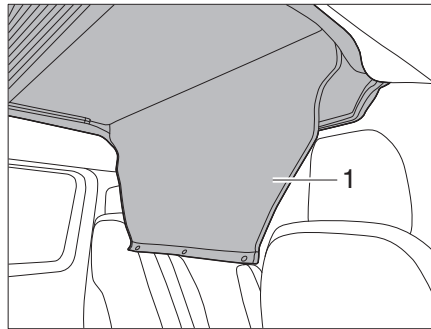

Fig. 24 Unrolling the entrance cover
- Unroll the entrance cover (Fig. 24,1).
- Close the entrance cover (Fig. 24,1) with snap fasteners.